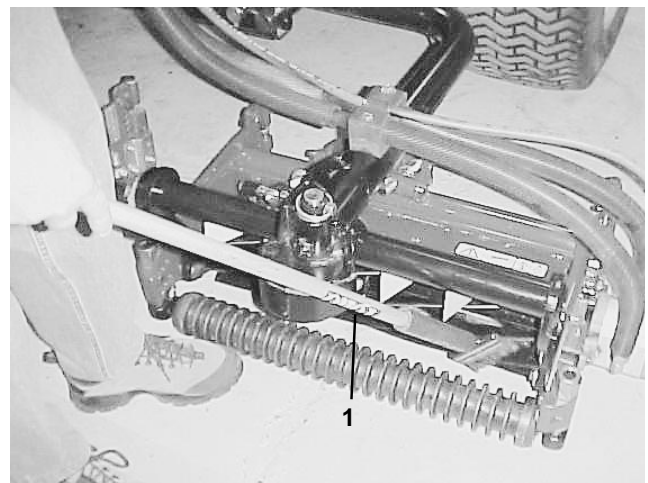

Figure 26
8. Apply lapping compound with a long-handle brush (Toro Part No. 29-9100). Never use a short handled brush (Fig. 26).
Each cutting unit has (7) grease fittings (Fig. 26) that must be lubricated regularly with No. 2 General Purpose Lithium Base Grease.